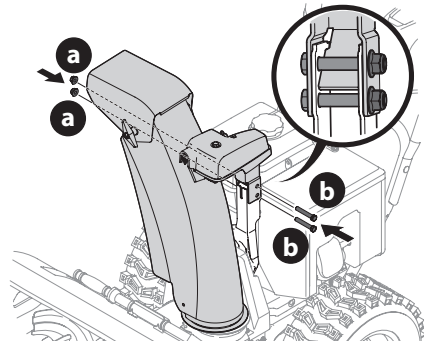

Figure 28
- Secure chute control head to chute support bracket with lock nuts (a) and hex screws (b) removed in Step 1 (Figure 28).